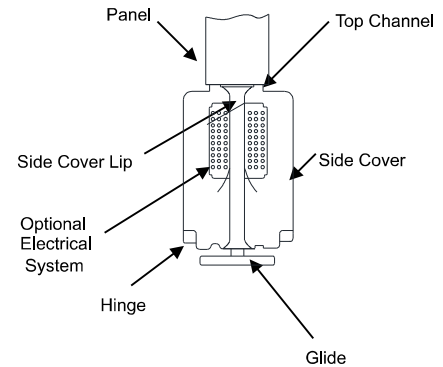

FIGURE 1
A. Starting at one end press down on the top of the side cover and push the lip under the top channel. **SEE FIGURE 1.**